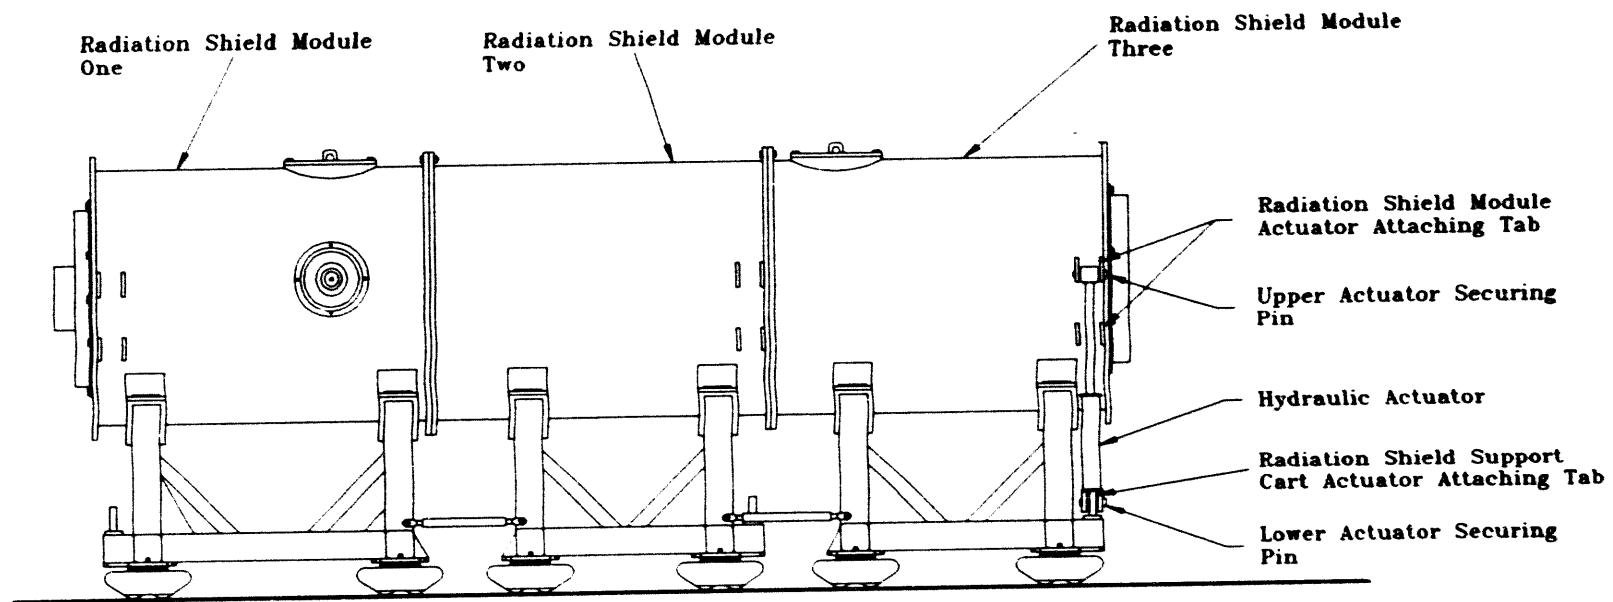

Figure 11: Hydraulic Actuator Placement
46. Install the Hydraulic Actuator on RSM3 as shown in figure 11.